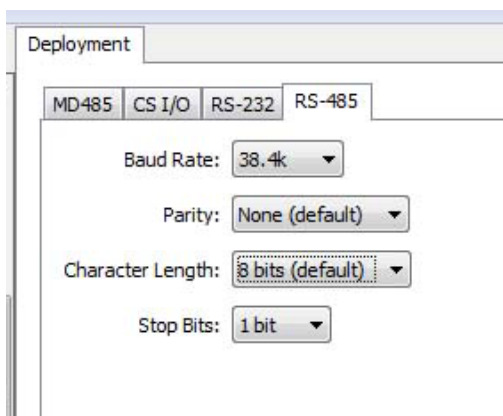

FIGURE 8-15. MD485 RS-485 tab
6. Click the **RS-485** tab. Set **Baud Rate** to *38.4k*. Set **Parity** to *None*. Set **Character Length** to *8 bits*. Set **Stop Bits** to *1 bit* (FIGURE 8-15).